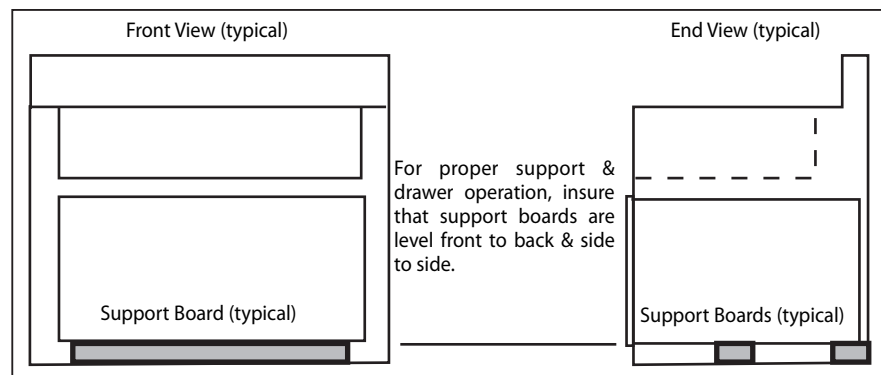

Fig. 6
5. Check to be certain that the top edges of your boards are level with the bottom edge of the cut-out (Fig. 6).